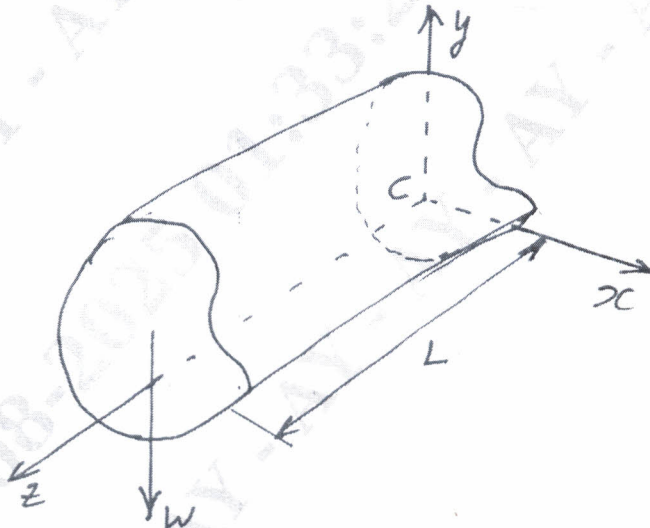

Fig. Q. 2 (a)
- 2 a. Determine the horizontal and vertical components of the tip deflection of the cantilever shown in Fig. Q. 2(a). The second moments of area are I_{xx} , I_{yy} and I_{xy} .